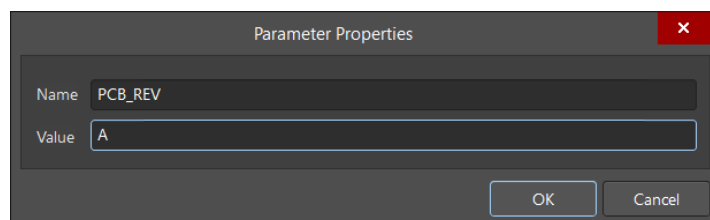

Figure 8. Adding a new Project Parameter
29. In the *Parameter Properties* dialog set the *Name* field to `PCB_REV` and *Value* field to `A`, as in Figure 8.